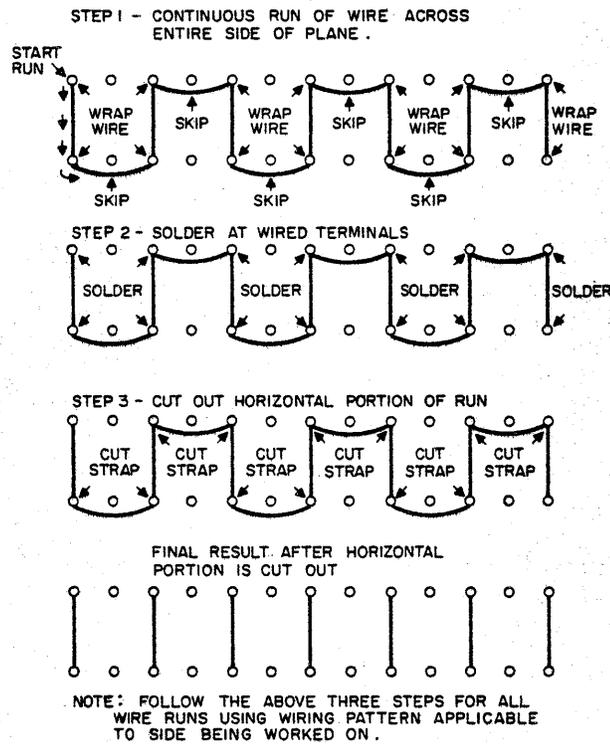

FIGURE 5. REPLACEMENT PLANE WIRING
18. Figure 5 illustrates the three steps to be followed in each wiring run. These three steps are performed for all wiring runs involved. When wiring the plane, use a wiring tool to make two complete wraps around the terminal where run is to be started and one complete wrap around all other terminals in run until last terminal, which also gets two complete wraps, is reached. The wraps are made around each terminal in such a manner that the vertical portion of the run will be on the same side of the terminal as the corresponding vertical run on the good plane above. There are four distinct wiring runs for each side and they should be made in the order illustrated on the applicable wiring diagram.